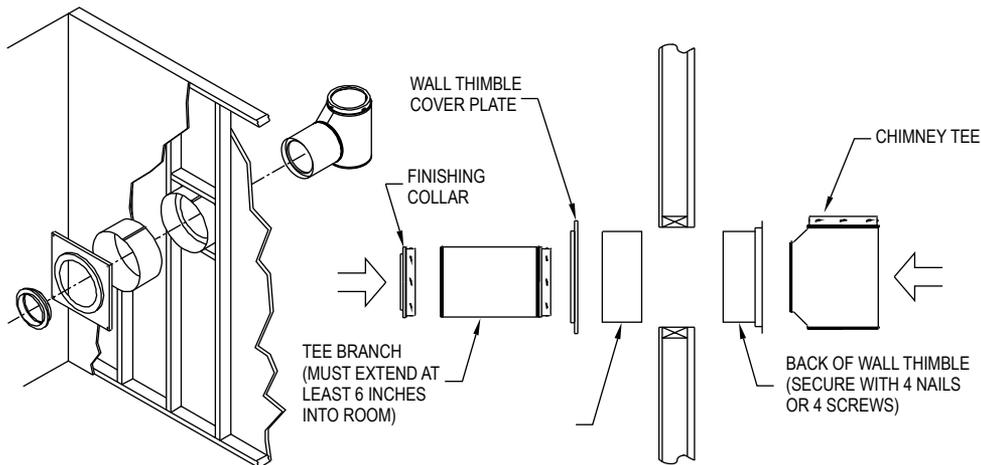
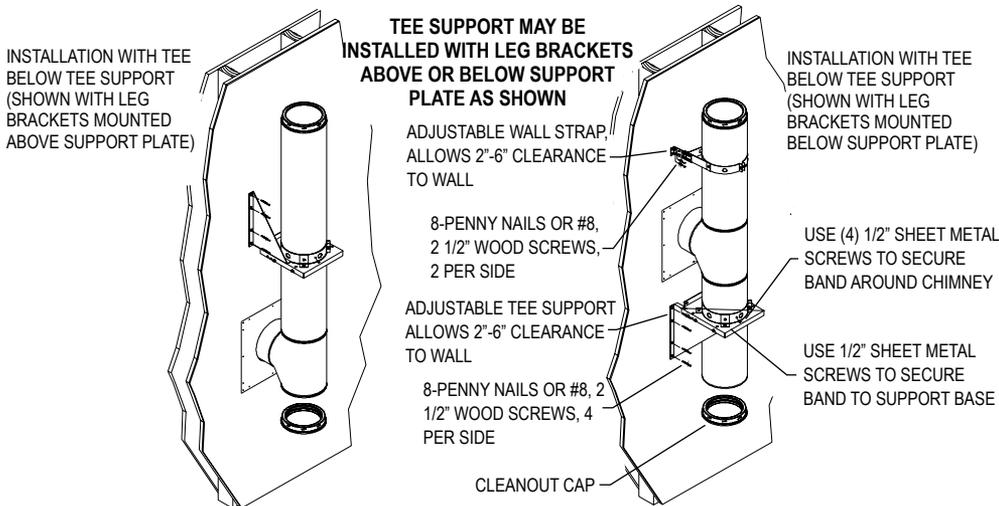

Figure 25
Figure 26
the cover plate is in position. Do not install cover plate at this time. When the shield extension is in position, secure it to the back portion of the shield using (4) sheet metal screws (**Fig 25**).
Figure 26. Important: Verify that Tee Support is level, and secure the leg brackets of the Tee Support to the wall using (4) #8, 2-1/2" screws for each side. Slide support base over leg brackets to adjust for desired clearance to wall, and secure by tightening bolts. (Figs 26 & 27).
Section: Twist lock the Tee onto a desired length of Chimney to be used as the cleanout section. Use only one chimney section (any length) to attach to bottom of the Tee. Tighten support band around chimney section at proper height to insure that Tee is centered through Wall Thimble (Fig 25 & 26). Use the 1/2" sheet metal screws provided to insure a tight connection between support band and chimney section. Connect support band to support base using the 1/2" sheet metal screws provided (Fig 26). Twist lock Tee Cap into bottom of Chimney Cleanout section.
6. Install Branch onto Tee: From inside the house, attach the Chimney Branch (a 12" or 18" Chimney section, depending on wall thickness, positioned horizontally used to pass through the wall) to the Tee by twist locking it clockwise. Important: The Chimney section used to penetrate through the wall must extend at least 6" into the room (Fig 25 & 27). Use high-temperature sealant (500°F) to seal between the Wall Thimble and the Chimney on the outer wall.